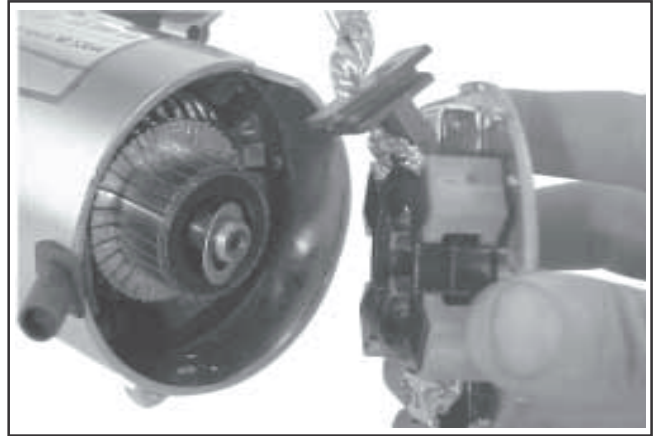

Figure 7-21. Removing Commutator End Plate Assembly.
5. Remove the commutator end plate assembly, containing the brush holder, brushes, springs, and locking caps. Remove the thrust washer from inside the commutator end. See Figure 7-21.